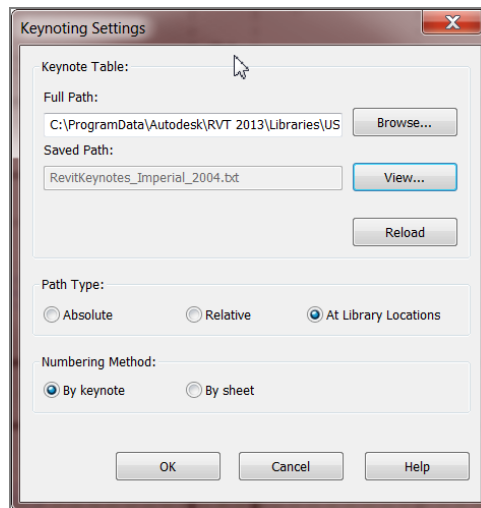

FIGURE 11.83: Mapping the `Keynote.txt` file
3. Make sure you're mapped to `C:\ProgramData\Autodesk\RVT 2015\Libraries\US Imperial\RevitKeynotes_Imperial_2004.txt` (RevitKeynotes_Metric.txt), as shown in Figure 11.83.